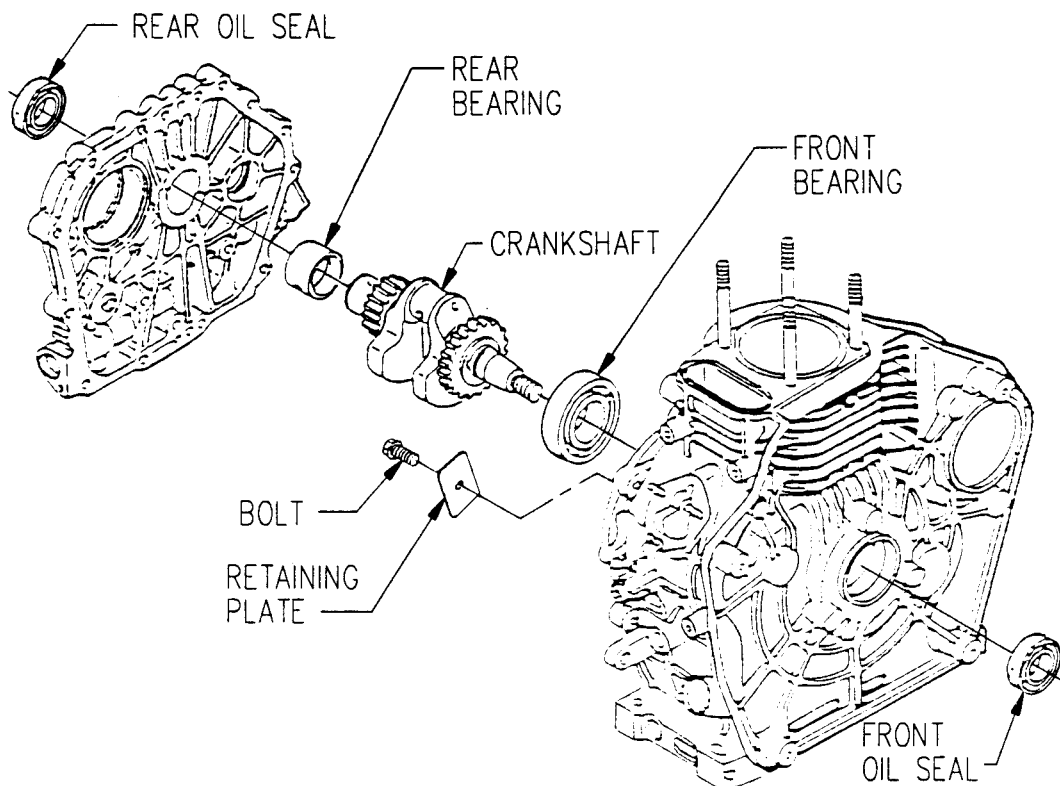
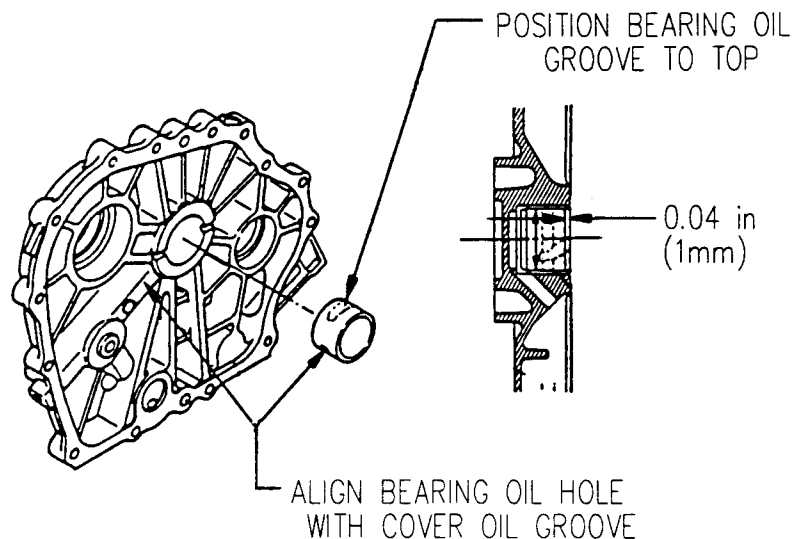

Figure 5-32. Crankshaft Assembly
Figure 5-33. Positioning Crankshaft Bearing in Crankcase Cover.
- (1) Shut down generator set.
- (2) Remove crankcase cover, refer to paragraph 5.16.a.
- (3) Remove cylinder head assembly, refer to paragraph 5.13.a.
- (4) Remove camshaft, refer to paragraph 5.18.a.
- (5) Remove balancer shaft, refer to paragraph 5.19.a.
- (6) Remove piston and connecting rod assembly, refer to paragraph 5.20.a.
- (7) Remove flywheel, refer to paragraph 5.21.a.
- (8) Remove bolt (Figure 5-32) and retaining plate from cylinder block.
- (1) If removed, install rear bearing (Figure 5-32) in crankcase cover (Figure 5-33).
- (2) If removed, install rear oil seal in crankcase cover to depth of 0.1575 in. (4 mm) below surface of cover.
- (3) If removed, install front oil seal in cylinder block so seal is flush with surface of block.
- (4) If removed, install front bearing on crankshaft.